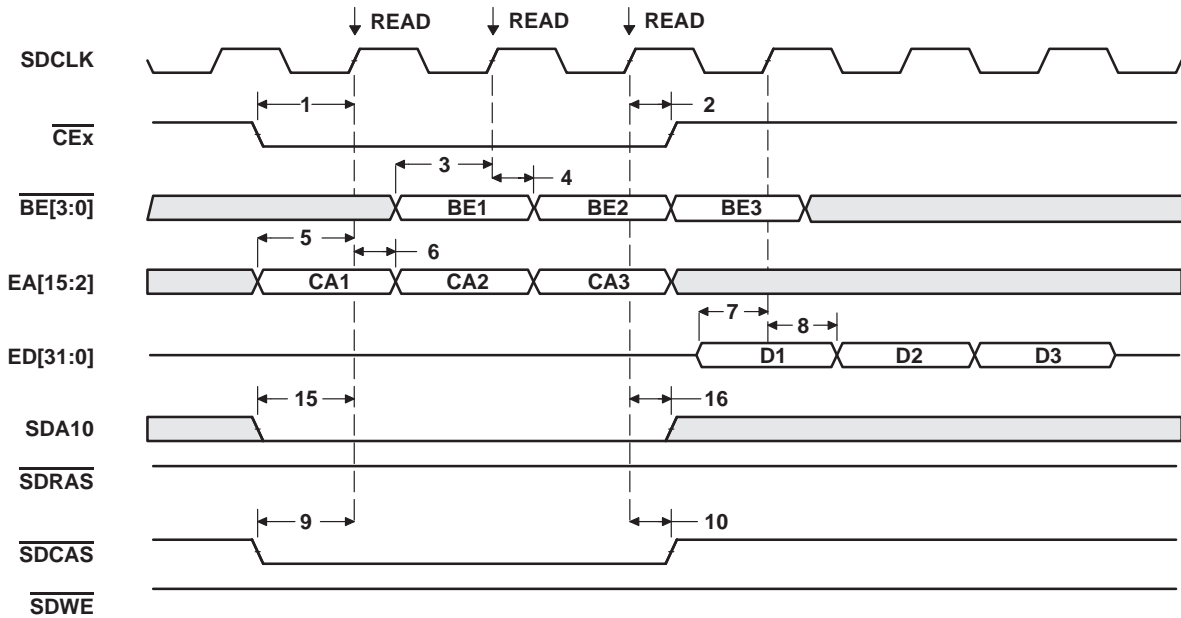
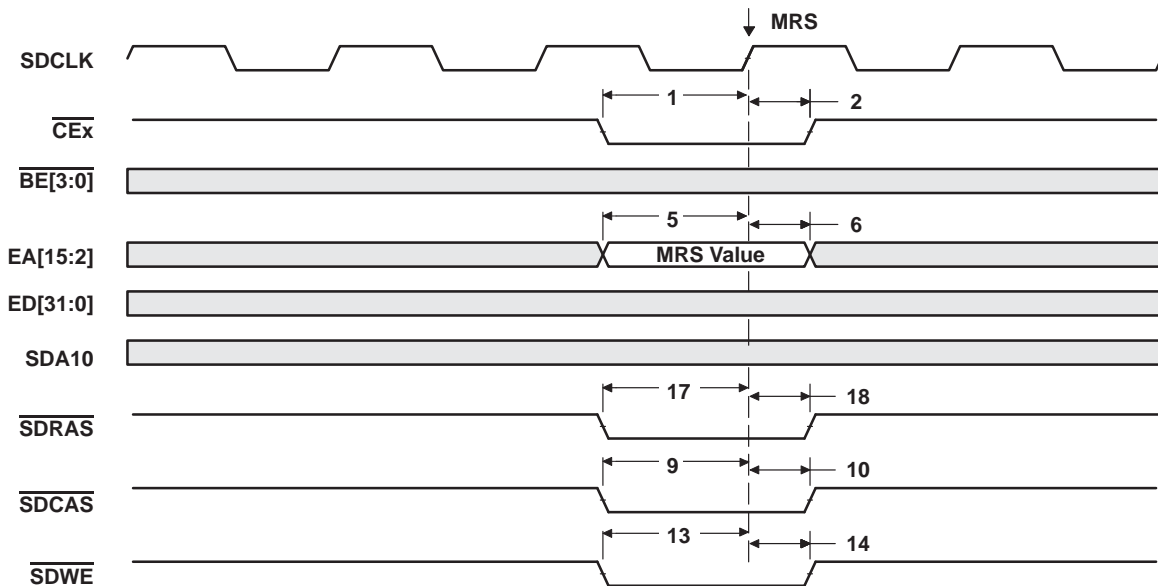

Figure 18. Three SDRAM Read Commands
Figure 23. SDRAM MRS Command
**timing requirements for synchronous DRAM cycles (see Figure 18)**
**switching characteristics for synchronous DRAM cycles† (see Figure 18–Figure 23)**